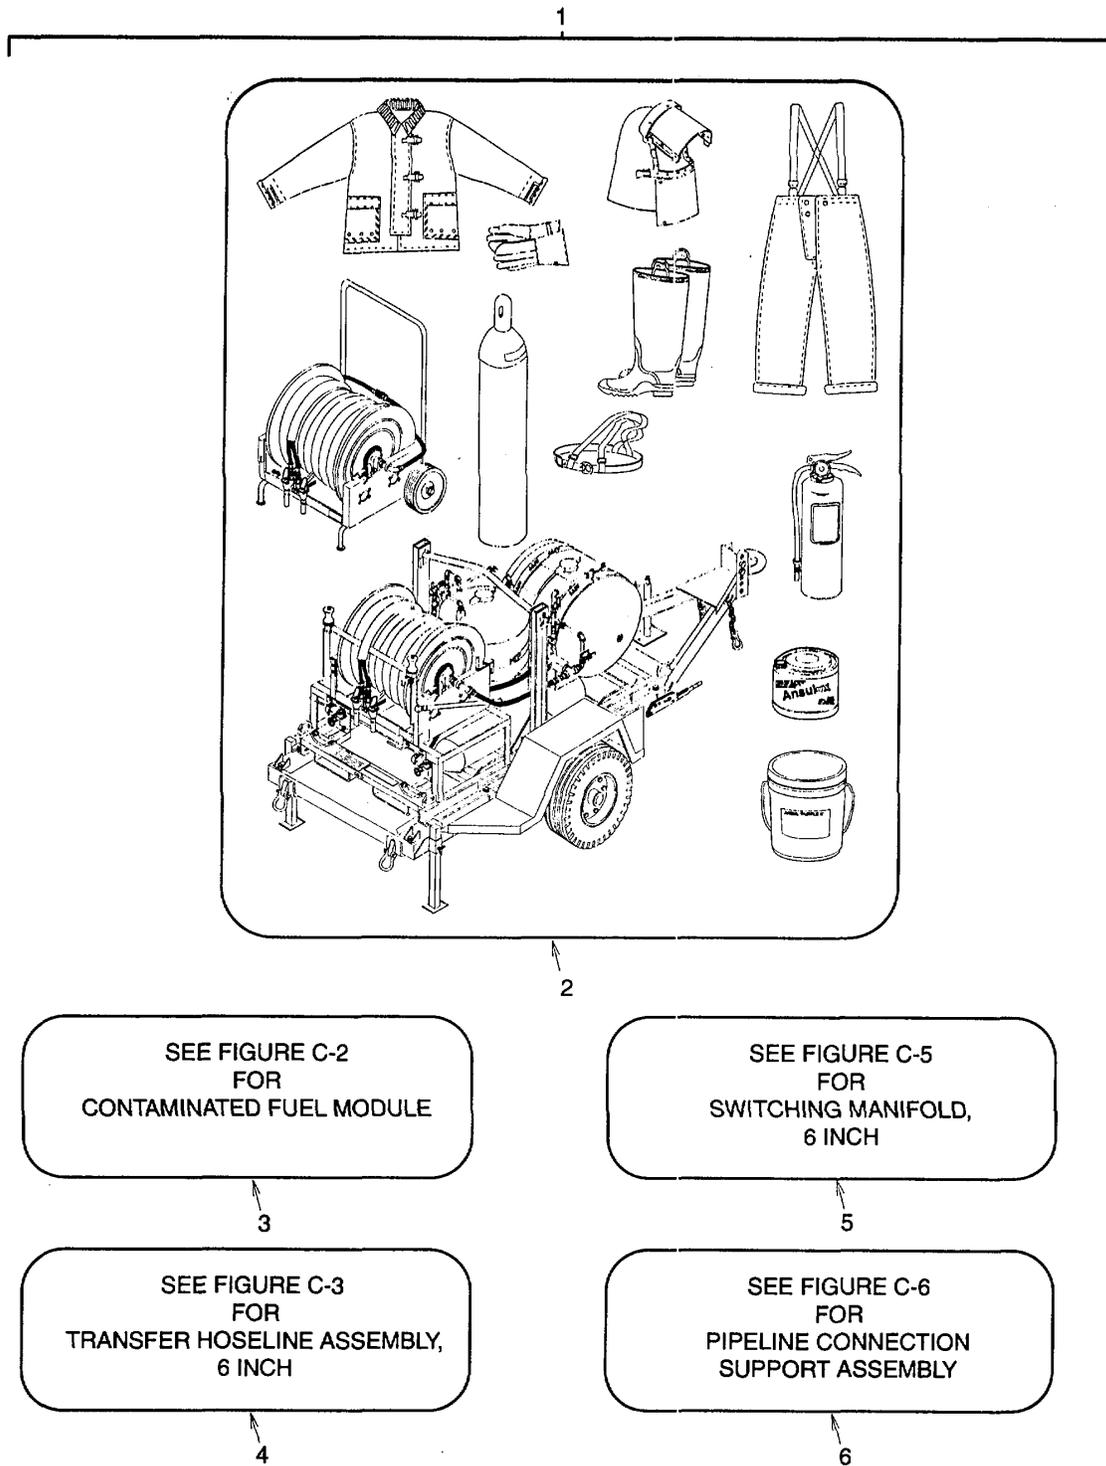

Figure C-1. Pipeline Connection Assembly
* See figure C-1. This Assembly is part of Pipeline Connection Assembly.
<p>*See figure C-1. This assembly is part of Pipeline Connection Assembly.</p>
* See figure C-1. This assembly is part of Pipeline Connection Assembly
<p>* See figure C-1. This assembly is part of Pipeline Connection Assembly.</p>